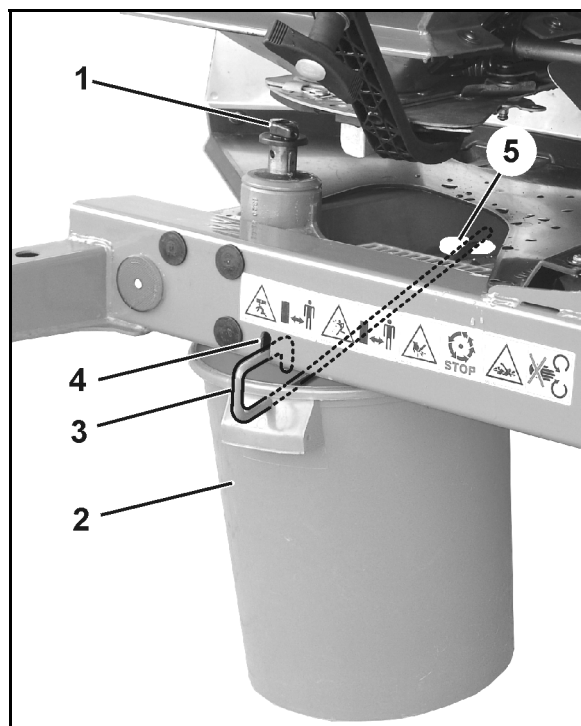

Fig. 53
- 2.1 Unscrew the wing nut (Fig. 53/1) securing the spreader disc and remove the spreader disc from the gearbox shaft.
3. Hook the collection bucket (Fig. 53/2) using the brackets (Fig. 53/3) into the supports (Fig. 53/4 and Fig. 53/5) on the frame.